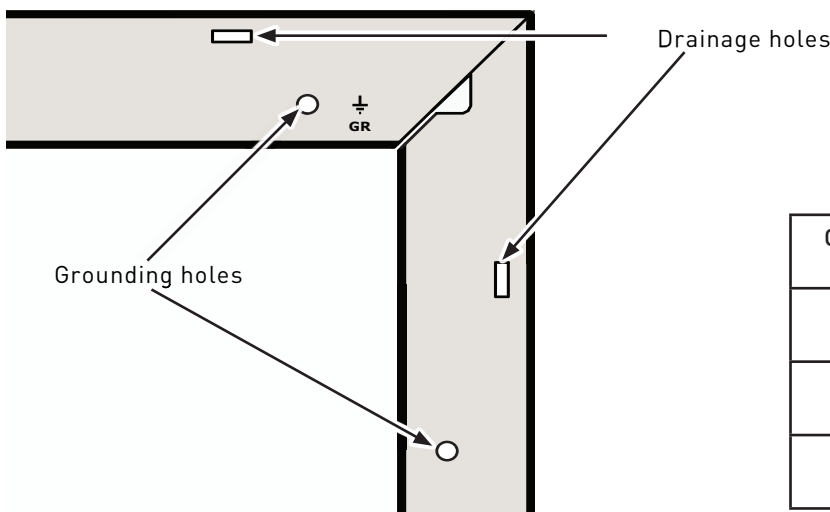

Figure 22. Drainage and grounding holes
- In each corner of the EverVolt module frame small drainage holes are spaced 2.2 in (55 mm) from the corner on long and short sides (Figure 22). These allow humidity caused by rain, condensation, snow melt, cleaning or any other process to exit the frame easily and minimize damage.
- EverVolt modules have a small round grounding hole positioned near each corner of the module on both the long side and the short side, as shown in Figure 22 and can be further identified by the grounding symbol stamped in the frame next to it.